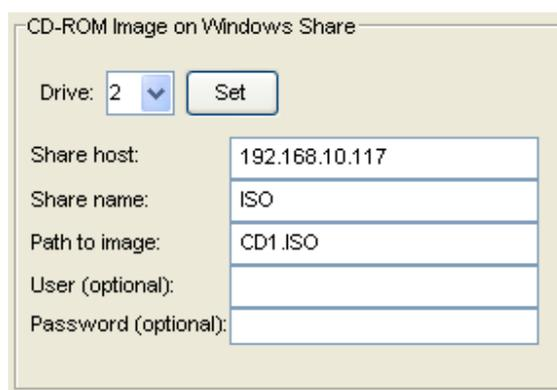

Figure 11-3
Please refer to Figure 11-3 for the following items.
**User/Password (Optional):** Key in the user and password for the person to access the data that you want to share and click the "Set" button shown in Figure 11-3 to enter your selections.